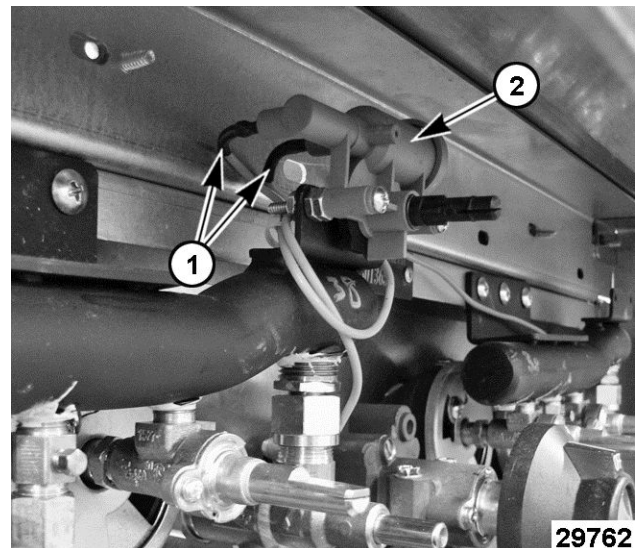

Fig. 68
3. Disconnect igniter wires (1, Fig. 68) from rotary igniter (2, Fig. 68).